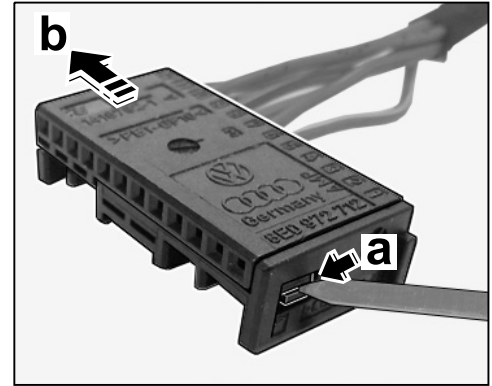

Figure 22
3.5.1 Release connector (12-pin) on vehicle side for switch for rear lowering (1BK) (see also ⇒ *Figure 22*).
- 3.5.2 Release new connector (12-pin, switch for trailer hitch – 1D3/1D9 and rear lowering (1BK) (⇒ *Figure 22*).